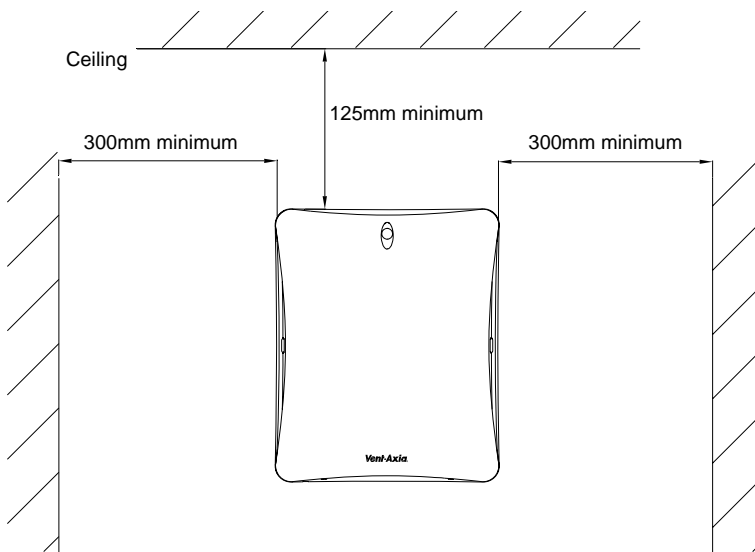

Fig.3
13. The internal grille surround must be sited at least 125mm away from the room ceiling (Fig. 3). and 300mm away from any adjacent vertical surface.